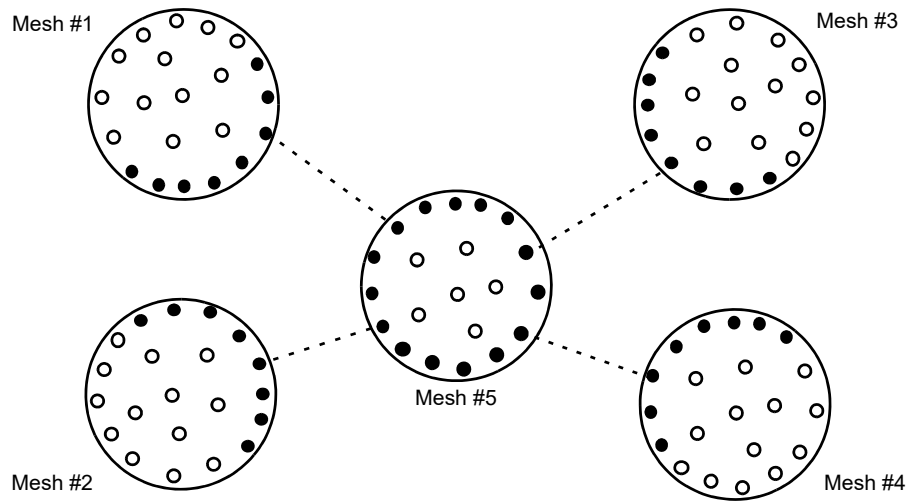

Figure 2.21 Perform a Link Test with the Fifth Mesh
1. Locate all the SWIFT wireless mesh systems in the area. Access to all mesh gateways in the area and to the closest edge devices between overlapping meshes is required and the SLC addresses of the edge devices must be known. The edge devices that must be accessible are located at the ends of the dotted lines represented in Figures 2.21 and Figure 2.24. If location of devices or access to them is not possible, the addition of a fifth wireless mesh is not permitted in this area.